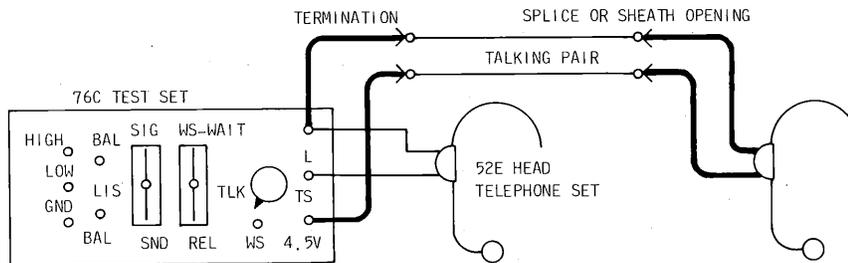

Fig. 25—Connecting Test Set at Splice or Sheath Opening
- 4 After the pair with the tone has been identified, at the splice or sheath opening, connect a talk set across the pair. In the case of a quad, connect the talk set across the pair that has the weaker tone. This will operate the buzzer of the test set at the termination and signal that the pair has been located. At the termination, shift the keys to the LIS and TLK positions and remove the tone sending connections. The talk pair should be as shown in Fig. 25.